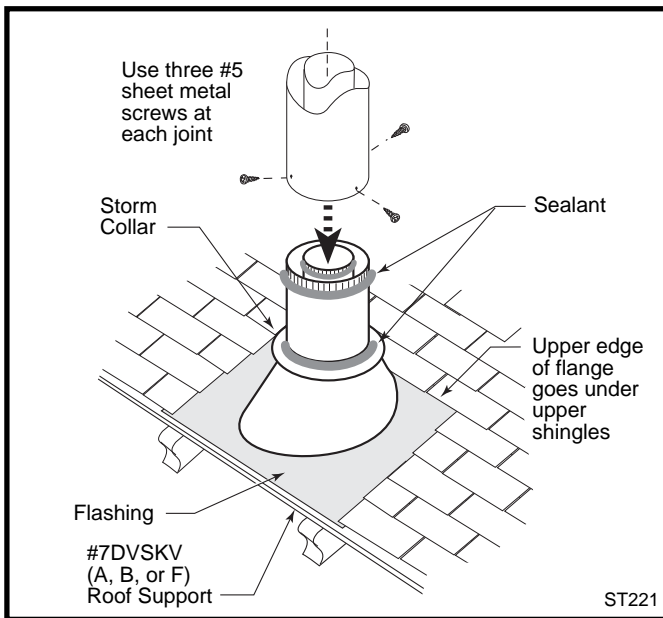

Fig. 34 Roof support and flashing.
- Install the appropriate roof support and flashing, making certain that the upper flange of the flashing base is below the shingles. (Fig. 34)
9. Install the storm collar and seal around the joints. (Fig. 34)